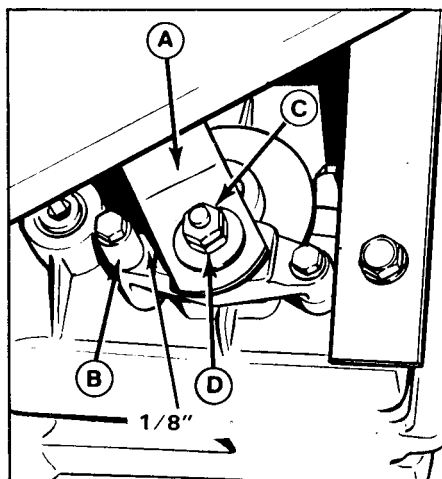

Figure 31. Parking Brake Adjustment
- Push the cam lever (A, figure 31) forward (toward front of tractor) to take out any slack. The gap between lever (A) and stop (B) should be  $\frac{1}{8}$  inch (0.3 mm). Use a feeler gauge to measure. If not  $\frac{1}{8}$  inch, perform step C.